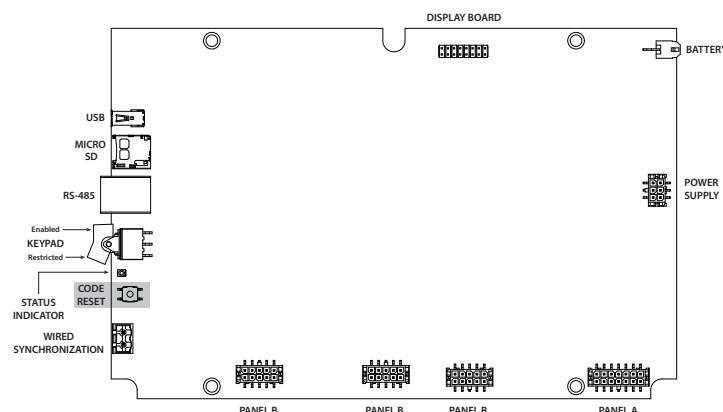

FIGURE 5-6
3. With power turned on and the unit in Operate mode, press and hold the ACCESS CODE RESET button (on the lower left side of the circuit board) for ten seconds. *(See shaded area in Figure 5-6.)*